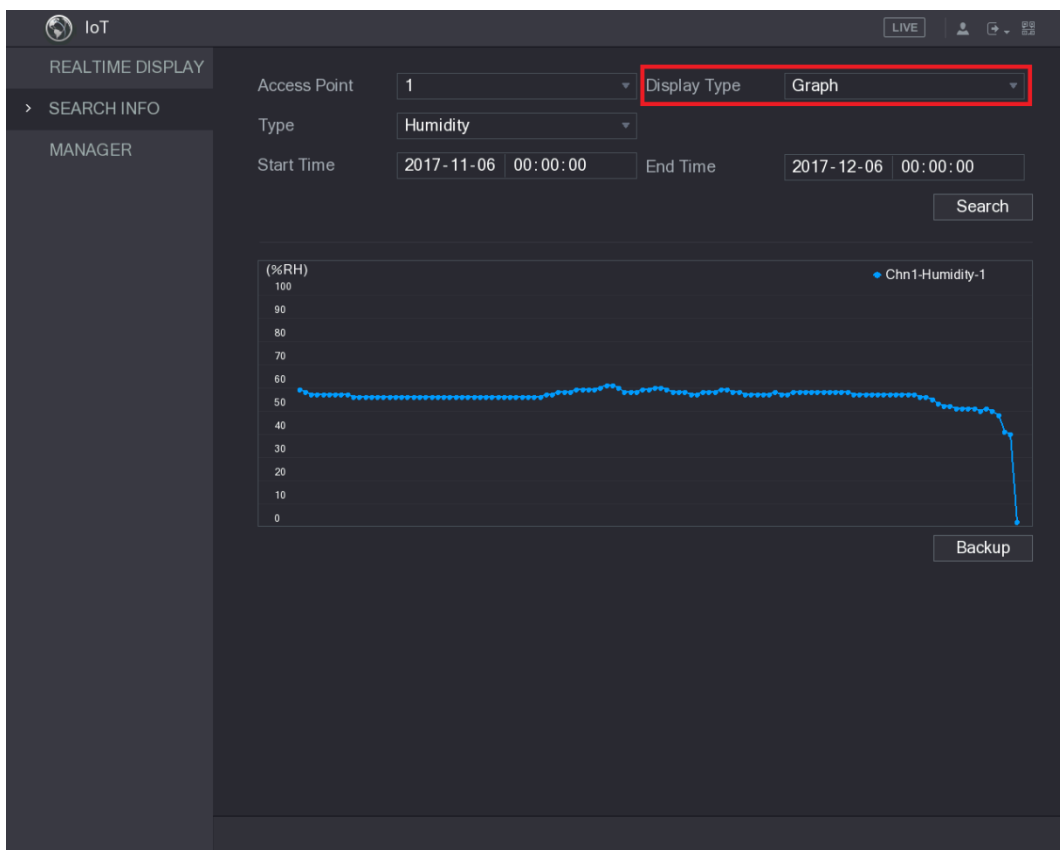

Figure 5-211
- For the data displayed in graph, see Figure 5-211.